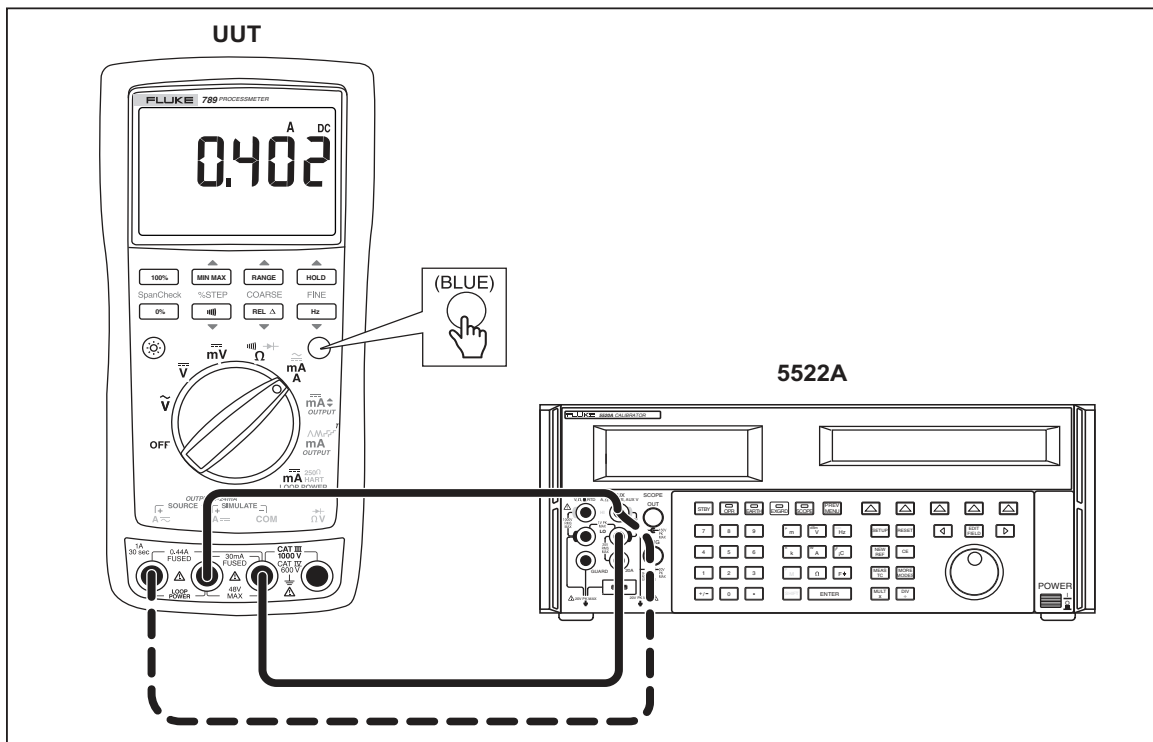

Figure 4. Current Measurement Test Connections
3. Connect the calibrator to the **COM** and  $\overset{\sim}{mA}$  terminals on the UUT as shown in Figure 4.